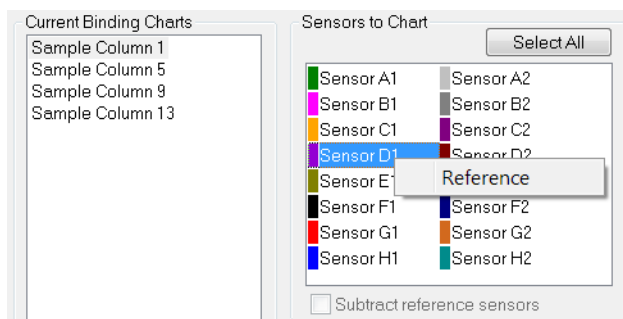

Figure 7-71: Designating a Reference Biosensor in the Runtime Binding Chart
1. In the **Sensors to Chart** list or the **Sensor Tray**, right-click a biosensor and select **Reference** (see Figure 7-71).